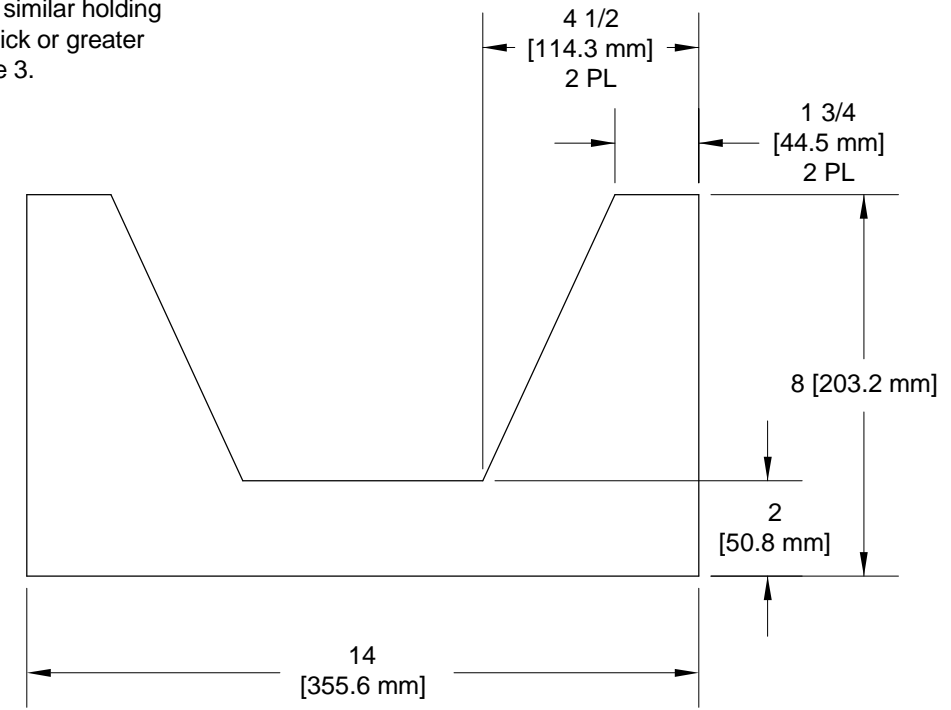

FIGURE 3: FABRICATE 'V' BLOCK
Step 4: Make a 'V' block or similar holding fixture from 1/4 [6.4 mm] thick or greater plywood as shown in Figure 3.